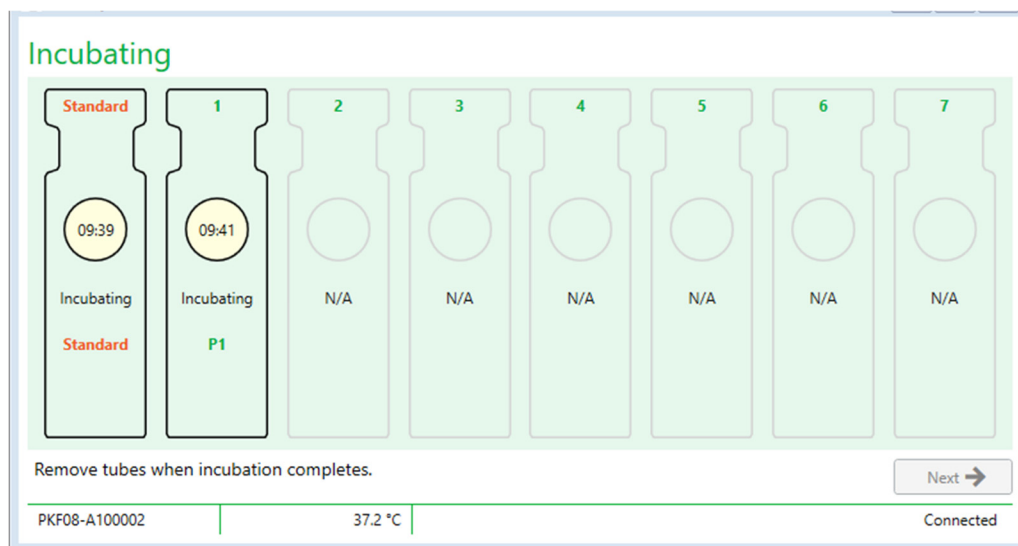

Figure 10. BG Analytics® Incubating Screen with STAT STD Inserted in Well Standard and One (1) Patient Sample Tubes Inserted in Well no. 1
2. Insert each tube in its respective well in PKF08 to start the incubation step (Figure 10). Each well is individually timed.